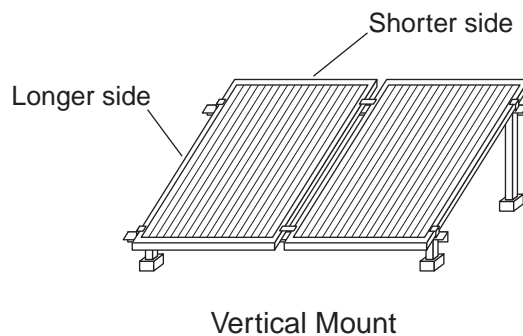

Fig. 1 PV Module Mounting Direction
- (d) The PV module is designed for vertical mounting. Please mount the PV module longitudinally as shown in Fig.1.